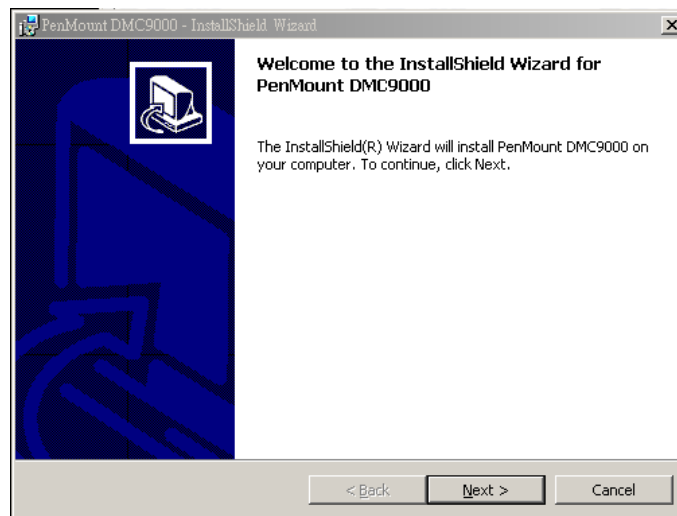

Figure C-2: Welcome Screen
Step 4: Once the OS system is selected, a welcome screen appears (**Figure C-2**). To continue the installation process click **NEXT**.